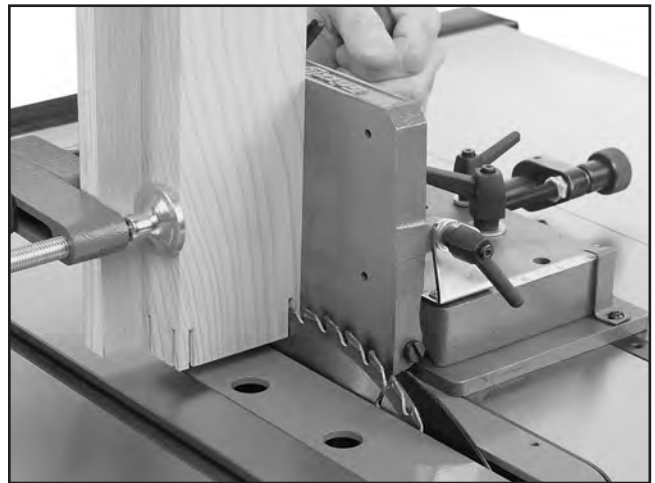

Figure 26. Making the third and fourth cheek cuts.
10. Position the workpiece for the third and fourth cosmetic cheek cuts, as shown in **Figure 26**, and repeat **Steps 5–8** for each cut.